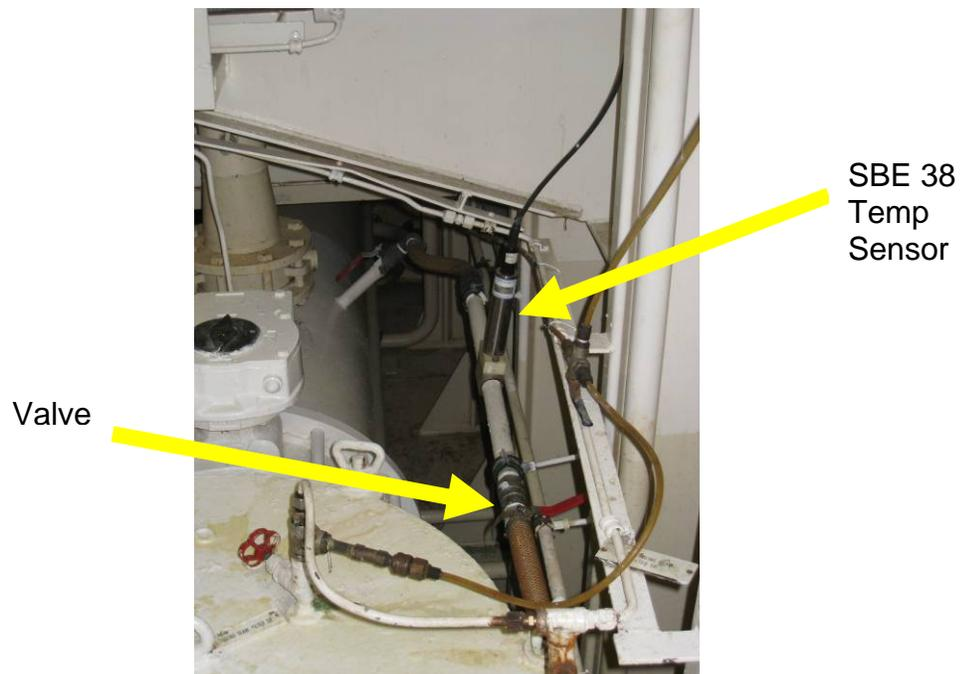

Figure 1. SBE 38 Temp. Sensor and Valve
1. Open the stainless steel ball valve located after the SBE38 remote temperature sensor just behind the sea chest (Fig. 1).
2. Close the stainless steel ball valve located after the SBE38 remote temperature sensor just behind the sea chest (Fig. 1).